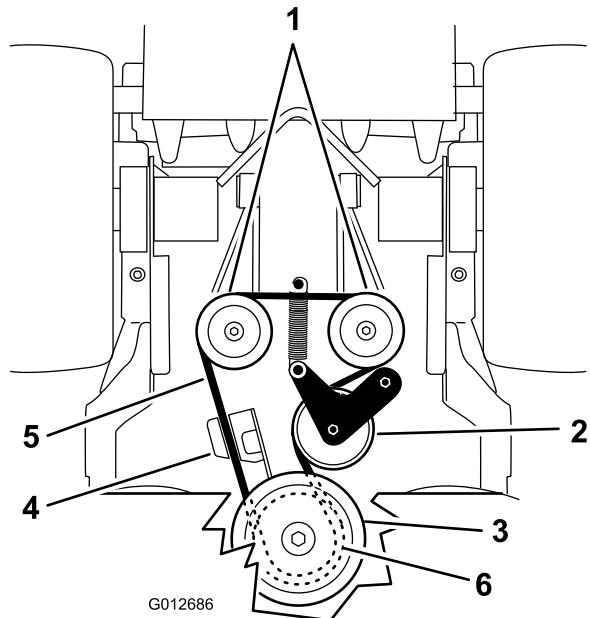

Figure 67
5. Unhook the idler spring from the frame (Figure 67).
7. Install the idler spring to the frame (Figure 67).